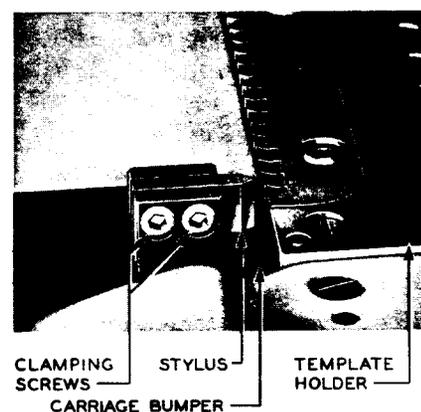

Fig. 28 — Tab-Clipping Control Stylus (elevated position viewed from side)
3.46 Stylus: Fig. 28 — To replace the stylus, set the tool for tab clipping. Then depress the lock cylinder to remove power from the tool. Remove the stylus clamping screws using the proper size Allen wrench. Remove the stylus. Mount the new stylus with its pointed end toward the carriage and securely tighten the clamping screws. Check for the requirement covering the positioning of stylus as covered in Section 076-143-701.